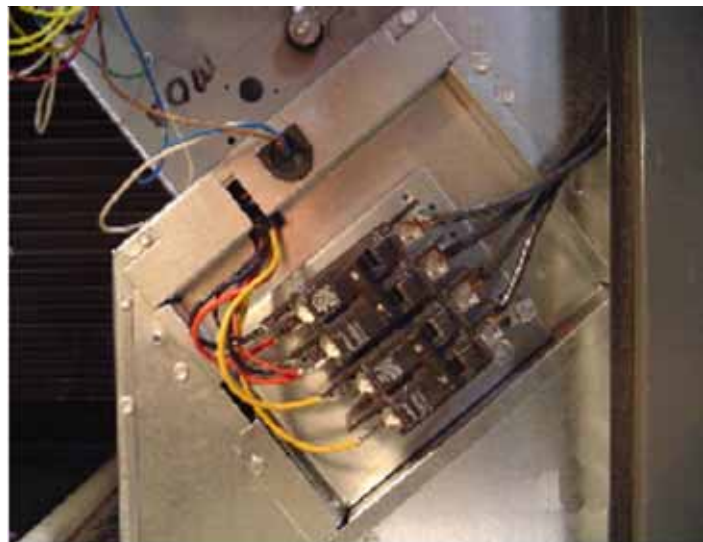

FIGURE 8
- Feed the 9-pin harness wires through the rubber grommet, and feed the HKR wires through the plastic bushing in the rear mounting plate. See Figure 8.